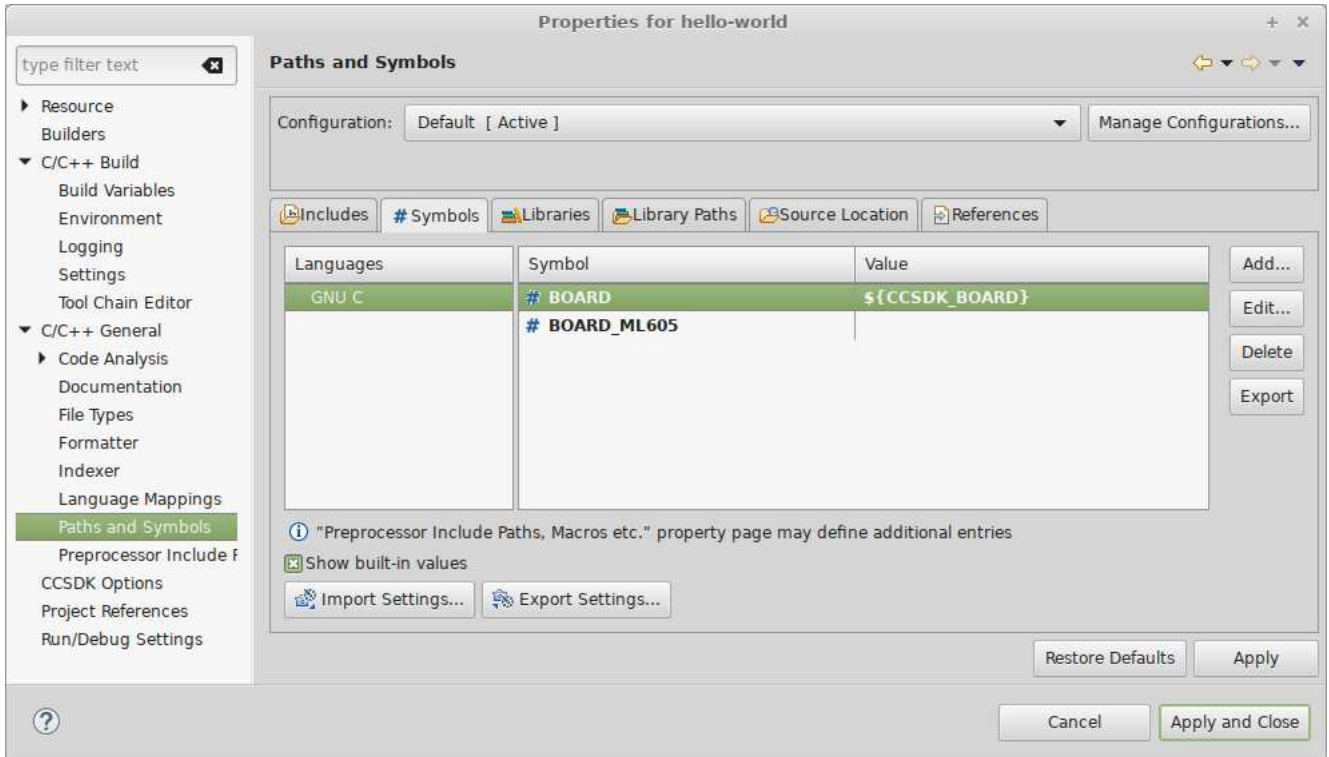

Figure 2.17. Preprocessor symbols configuration.
**Symbols** tab (figure 2.17) allows configuration of C preprocessor definitions. Similarly to *Includes* tab you can use environment and build variables during symbol definition. Definitions are independently defined for each language (C, C++).